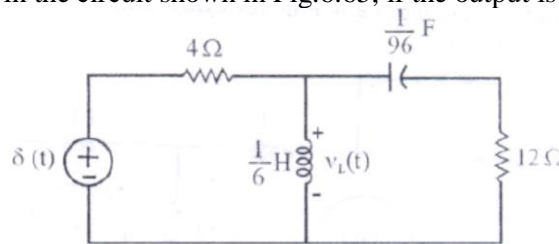

Fig.6.65
7. Find the impulse response in the circuit shown in Fig.6.65, if the output is  $V_L(t)$ .